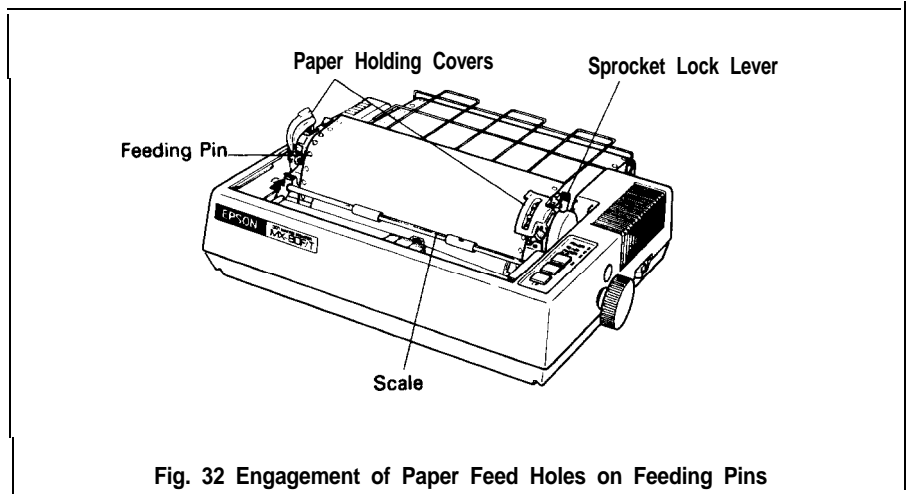

Fig. 32 Engagement of Paper Feed Holes on Feeding Pins
STEP 6. Engage the paper feed holes of the paper on the feeding pins, push the scale back into position, and adjust the tension of the paper. Then push the paper holding covers and the two sprocket lock levers down. (See Fig. 32.)